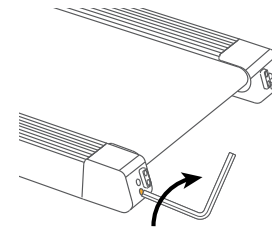

Figure 1
- If the walk belt has shifted to left, use the **hex tool A** to turn the left idler roller screw clockwise **1/4** of a turn(refer to figure 1).